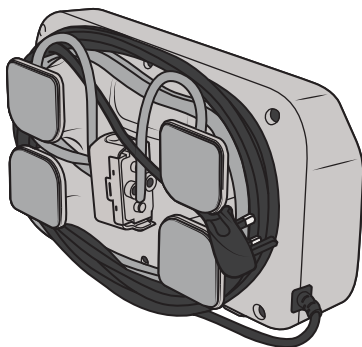

Figure 40
3. Wrap the power cable around the hanging brackets clockwise. See Figure 40.